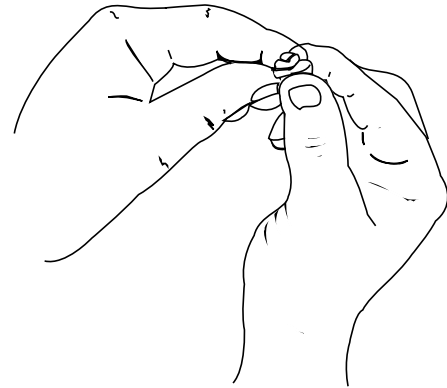

Fig. 46
5. Squeeze the filter to spread and remove excess oil (Fig. 46).